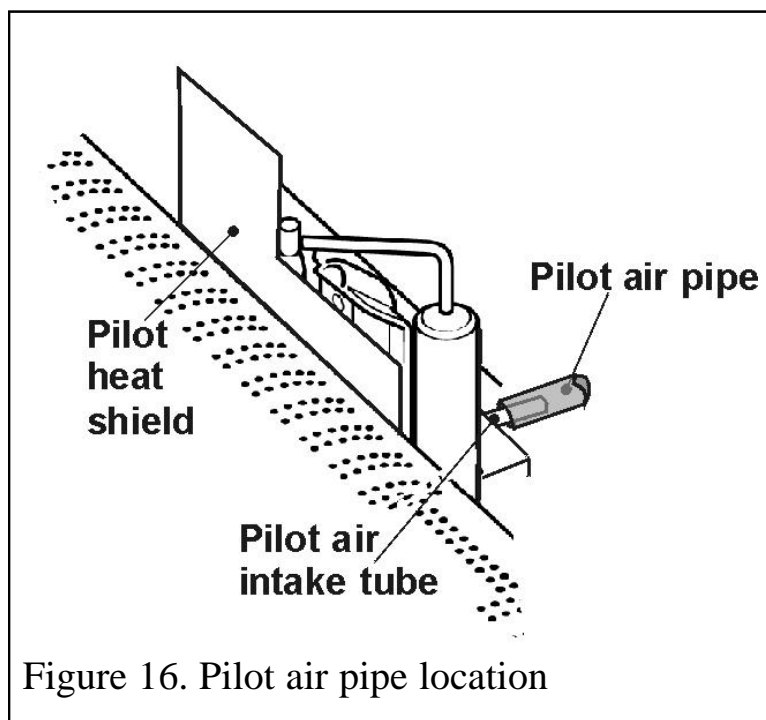

Figure 16. Pilot air pipe location
2. If the pilot is removed, when refitting, make sure that the pilot heat shield is in place between the pilot unit and the rear of the burner and is the correct way round (See figure 16).
3. Check that there is no blockage of the air intake tube at the back of the pilot unit. Make sure that the air intake tube locates fully into the pilot air pipe attached to the back panel (See figure 16).